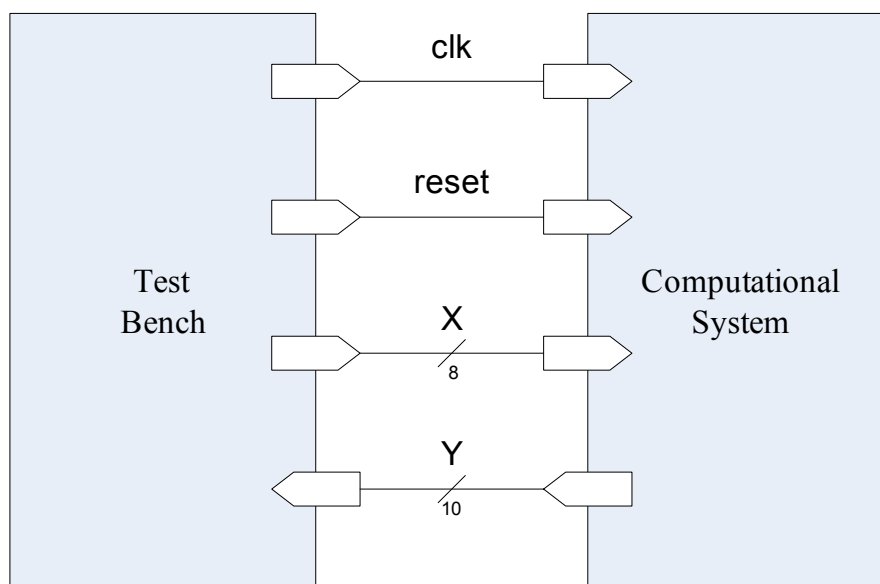

Fig. 1 Block Overview
Refer to Fig. 1, a series of 8-bit positive integer is generated as the input of the computational system by the test bench. The output value Y, which is a 10-bit positive integer is calculated according to equations (1), (2), (3) and (4). Note that $\lfloor \rfloor$ denotes the quotient operation.